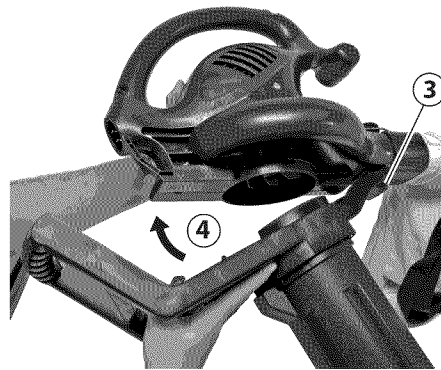

Figure 3-10: Attaching vacuum tube adapter to motor housing hook
5. Position front of vacuum tube adapter assembly over motor housing hook (see Figure 3-10).